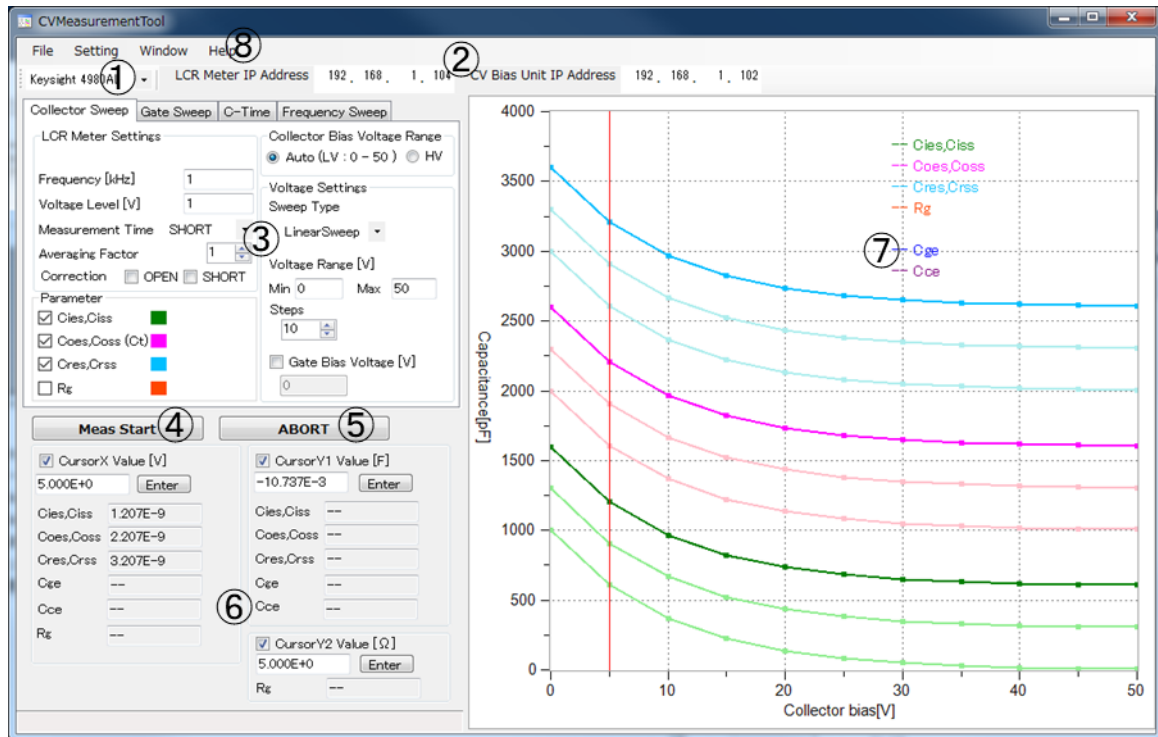
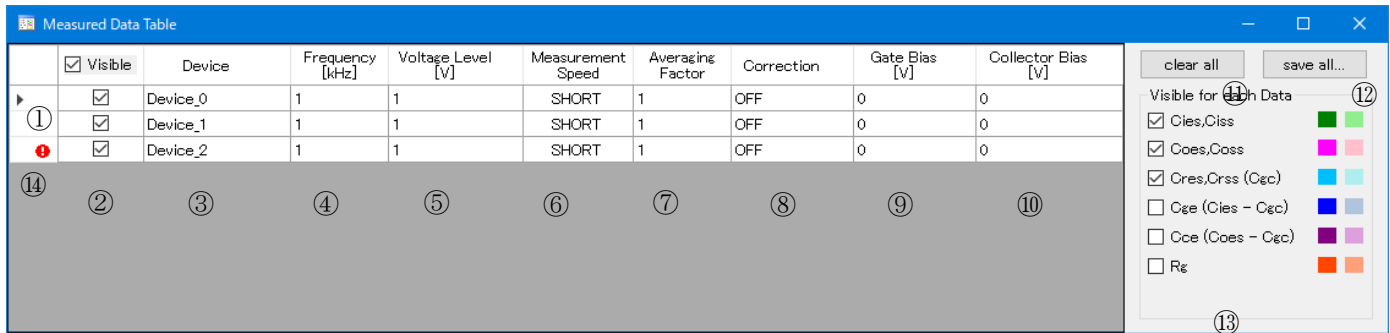

Fig. 3.5 Main Window
Fig. 3.6 Measured Data Table Window
1. Enter IP address of LCR Meter in [LCR Meter IP Address] on main Window (Fig. 3.5 ②)
1. Enter IP address of CV BIAS UNIT in [CV Bias Unit IP Address] on main Window (Fig. 3.5 ②)
When the application is started, two Windows are displayed (Fig. 3.5, Fig. 3.6).
Sweep mode is determined by currently displayed sweep mode tab on main Window (Fig. 3.5 ③).